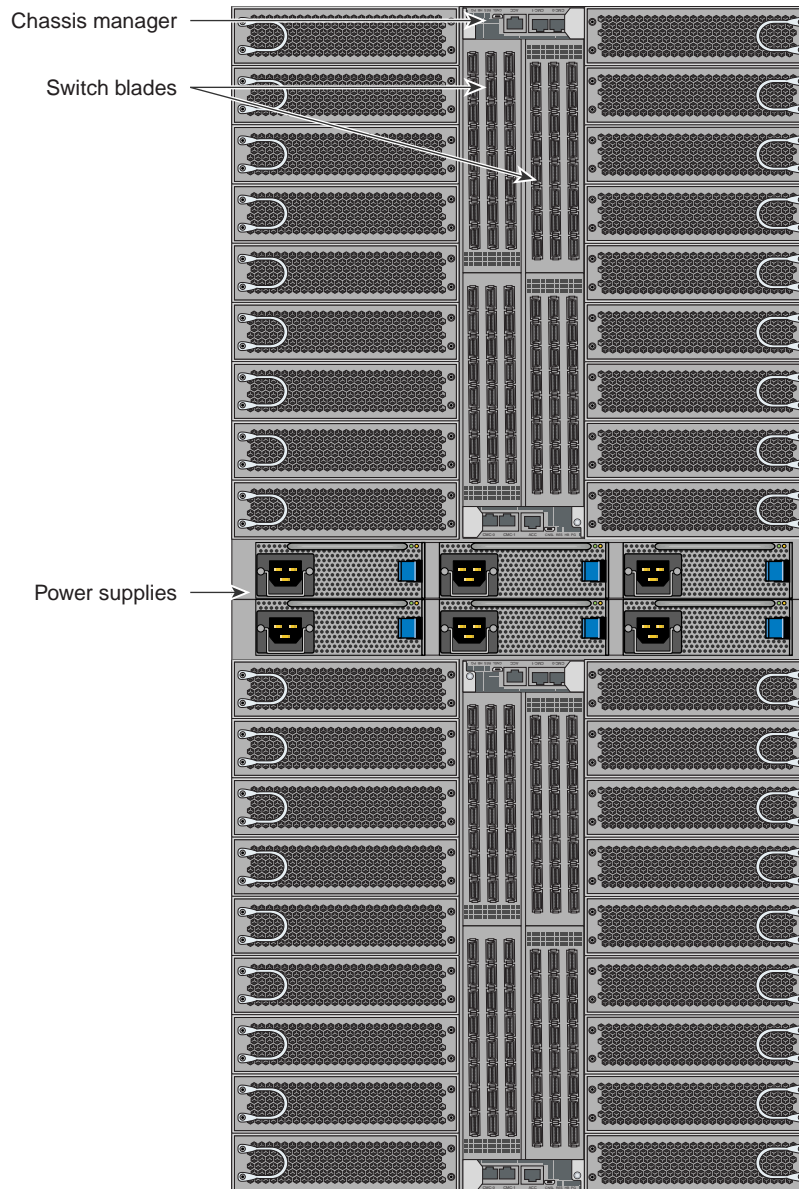
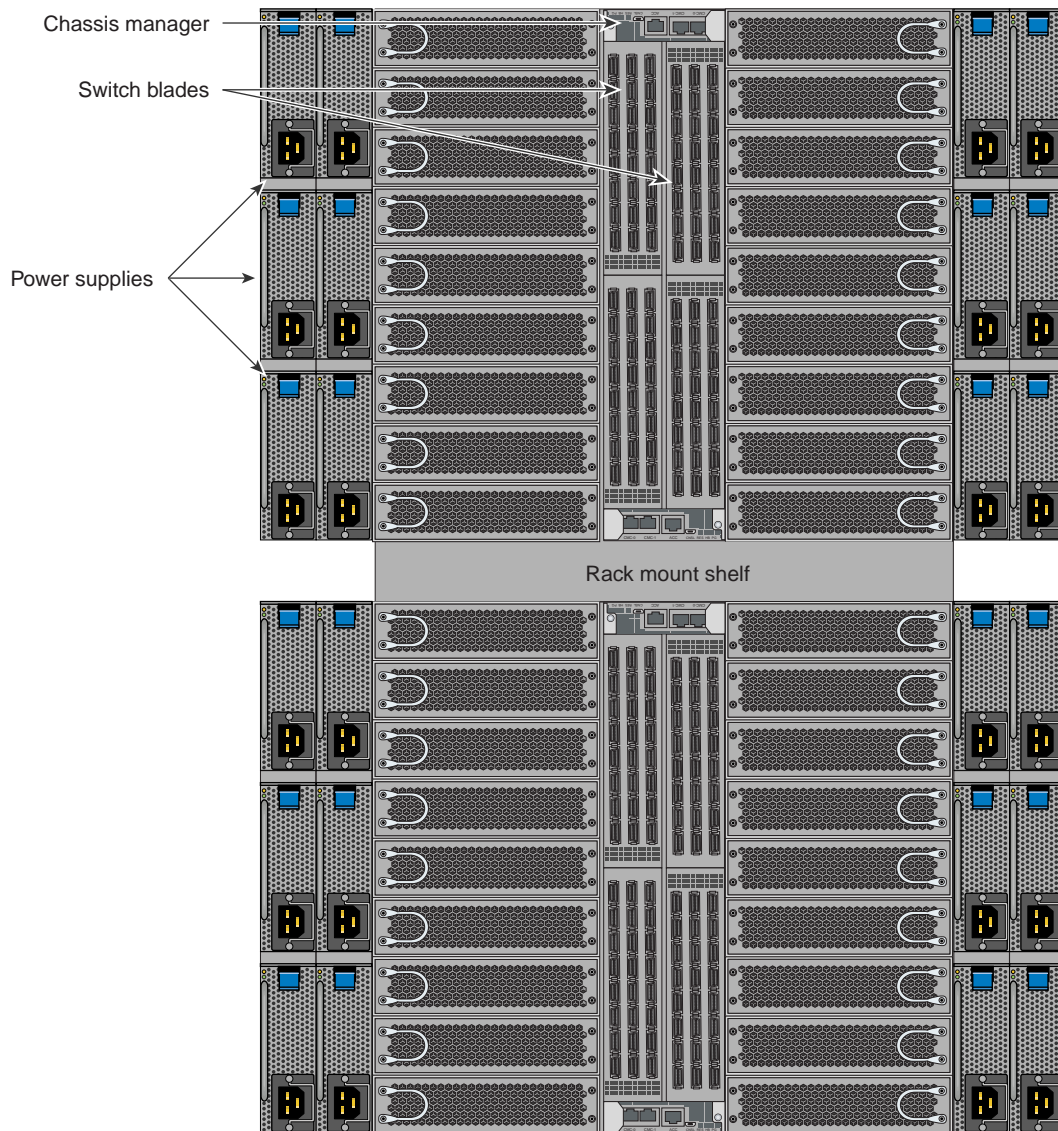

Figure 3-8 SGI ICE X Series D-Rack Blade Enclosure Pair Components Example
Figure 3-10 M-Rack Blade Enclosure Pair Components Example
- **Blade enclosure pair.** This sheetmetal enclosure contains the two enclosures holding up to 36 compute blades, up to four chassis manager boards, up to four InfiniBand fabric I/O blades and front-access power supplies for the SGI ICE X series computers. The enclosure pair is 21U high. Figure 3-8 on page 45 shows the D-Rack version of the SGI ICE X series blade enclosure pair system front components. The blade enclosure pair used in M-Cell configurations employs side-mounted power supplies, see Figure 3-10 on page 47.